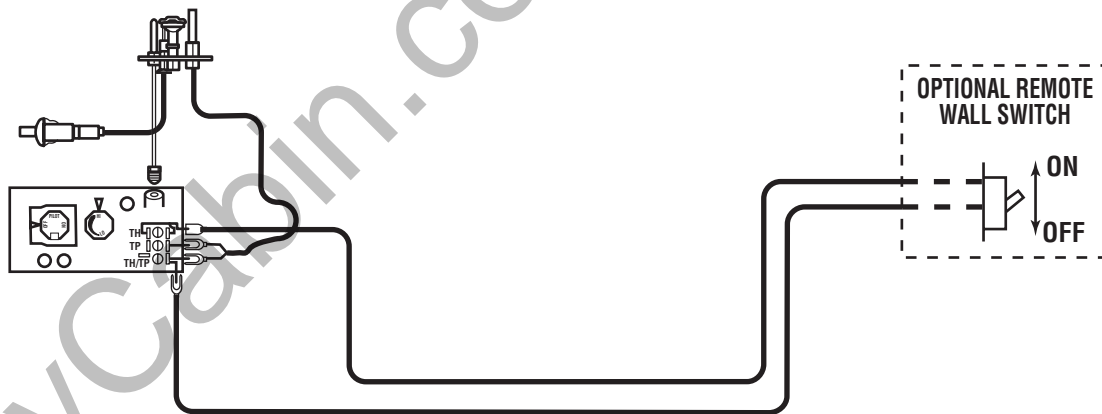

Figure 34 - Wiring Diagram for Wall Switch
A remote wall switch and up to fifteen (15) feet of 18 Ga. wire may be used with this appliance. Attach the wall switch in a junction box at the desired location on the wall. *See Figure 34.* Do not extend beyond the wall switch wire length provided.